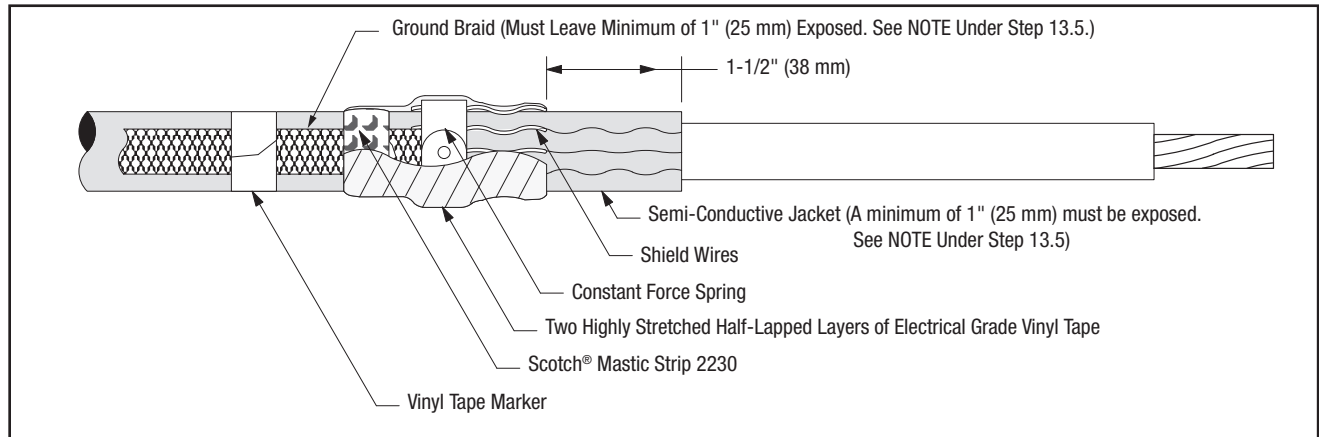

Figure 22
- 13.5 Wrap two highly stretched half-lapped layers of electrical grade vinyl tape around mastic seal, constant force spring and exposed shield wires (Figure 22).